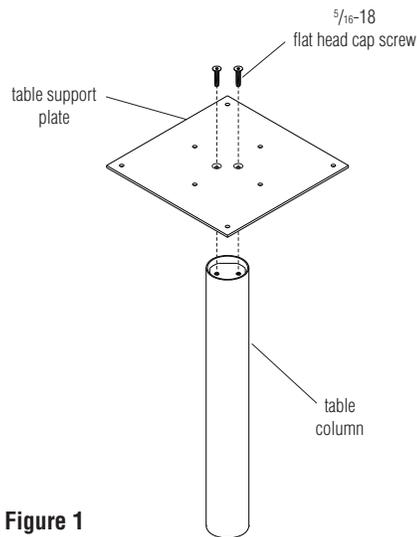

Figure 1
1. Carefully remove contents from packaging and view Figures 1 & 2 to familiarize yourself with the table base parts.
2. Position the table support plate as illustrated over the table column. Make sure the tapered, counter-sunk holes in the plate are facing up for the screw heads to nest into. Attach the plate to the column using two $\frac{5}{16}$ -18 flat head cap-screws provided. Using a $\frac{3}{16}$ hex driver, tighten screws to between 20 and 25 foot pounds of force (Figure 1).